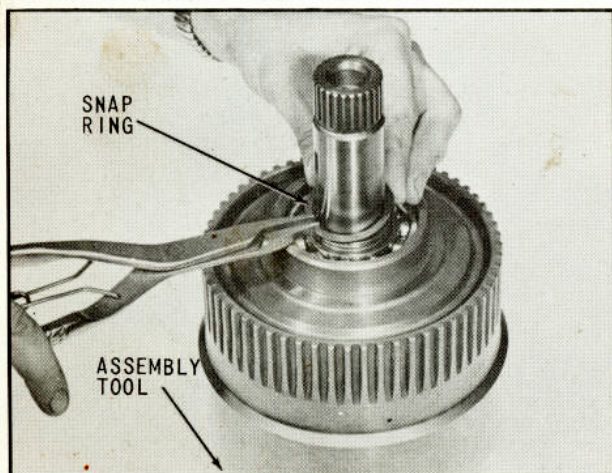

Fig. 47 Installing Snap Ring
43. Install external snap ring on drive gear, (Fig. 47).